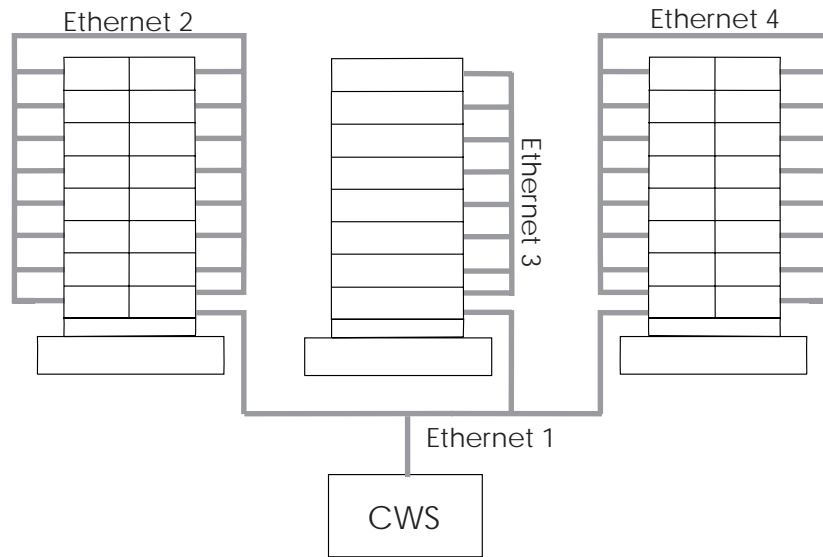

Figure 7. Method 2 Ethernet topology for a multiple-frame SP
2. A second approach designates the first node in each frame as a network install server, and then the remaining nodes of that frame are set to be installed by that node. This means that, from the control workstation, you will have an SP Ethernet segment connected to one node on each frame. Then the network install node in each frame has a second Ethernet card installed which is connected to an Ethernet card in the rest of the nodes in the frame. Figure 7 on page 68 shows an Ethernet topology for this multiple-frame system.